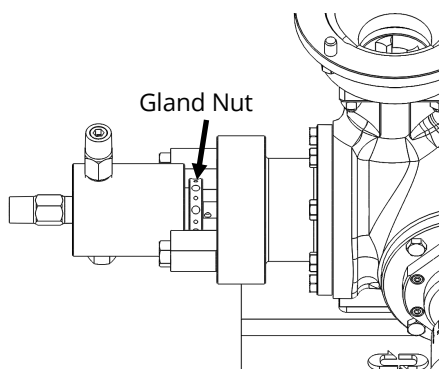

Figure 4
10. Note that this pump head features a non-adjustable plunger seal. The gland nut should be fully tightened. See Figure 4.